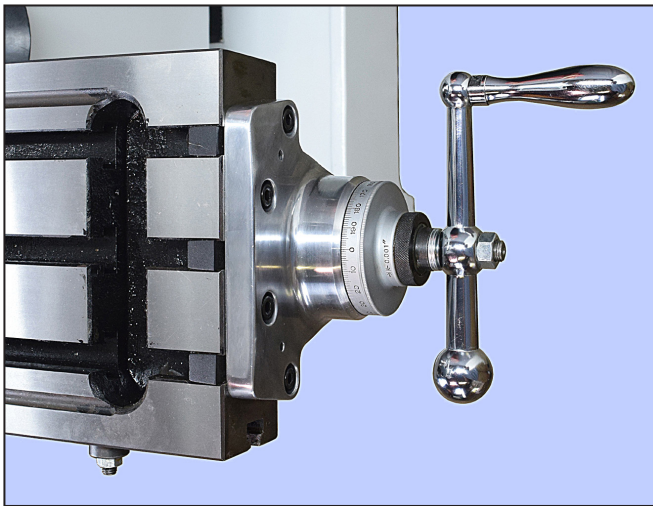

Figure 3-1 **Example leadscrew handle & micrometer dial**
Each axis has a leadscrew with handwheel and micrometer collar with 0.001" divisions, 0.1" per revolution, Figure 3-1. If the mill is not equipped with digital readouts (DROs), the table can be accurately positioned by counting whole turns and divisions, keeping leadscrew backlash in mind. This means that table motion must always be in the same direction when approaching the point of reference, then onward by a specified amount to the desired location, see "X & Y axis positioning", later in this section.
2. Move the SPEED RANGE crank to the LO detent position, Figure 3-1. (LO = back gear IN)